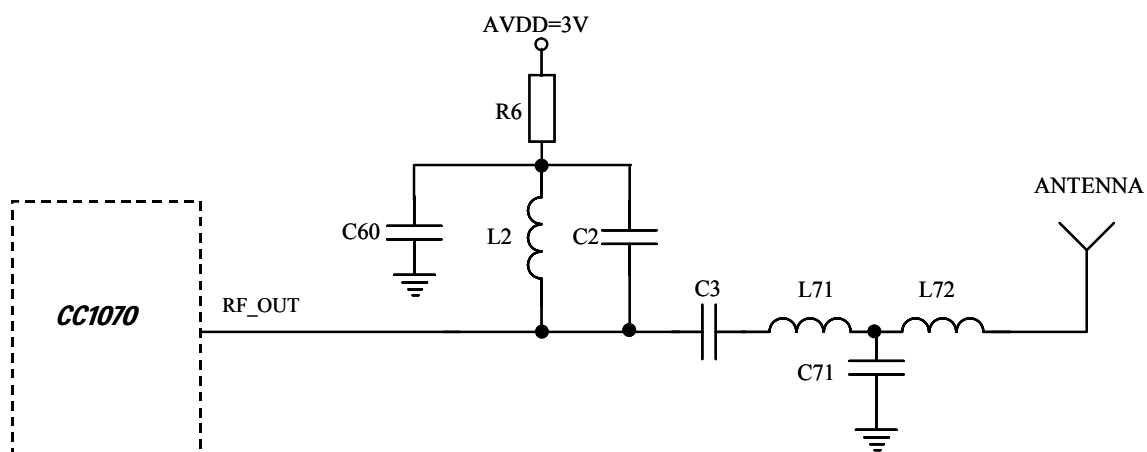

Figure 14. Output matching network
When designing the impedance matching network for the **CC1070** the circuit must be matched correctly at the harmonic frequencies as well as at the fundamental tone. A recommended matching network is shown in Figure 14. Component values for various frequencies are given in Table 15. Component values for other frequencies can be found using the SmartRF® Studio software.
**Table 15. Component values for the matching network described in Figure 14 (DNM = Do Not Mount).**